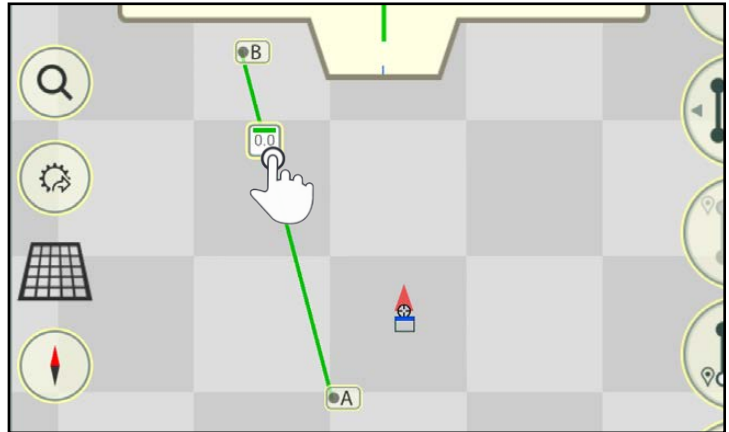

Fig. 116: Tapping the track marker
1. Tap a track marker or the reference track marker (see Fig. 116).